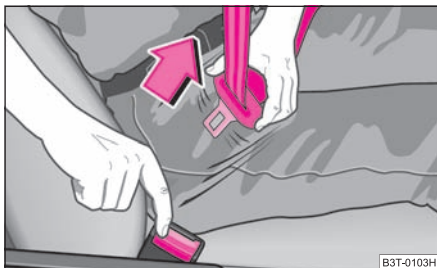

Fig. 153 Releasing lock tongue from belt lock
- Press the red button in the belt lock ⇒ fig. 153. The spring force causes the tongue of the lock to jump out.